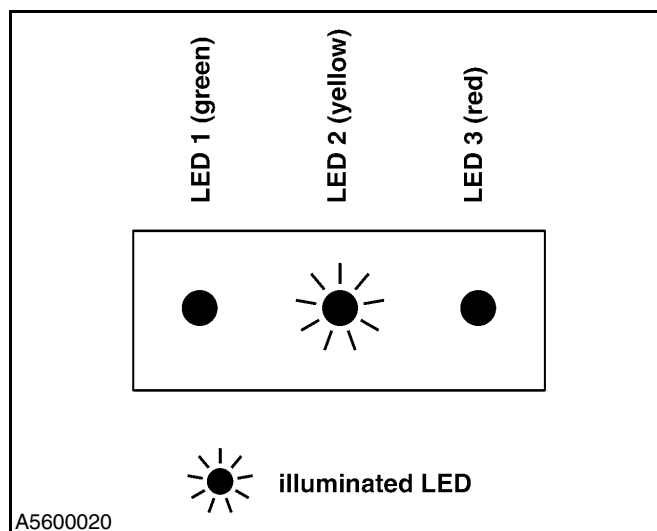

Figure 35
- Main power failure. (See Figure 35.)